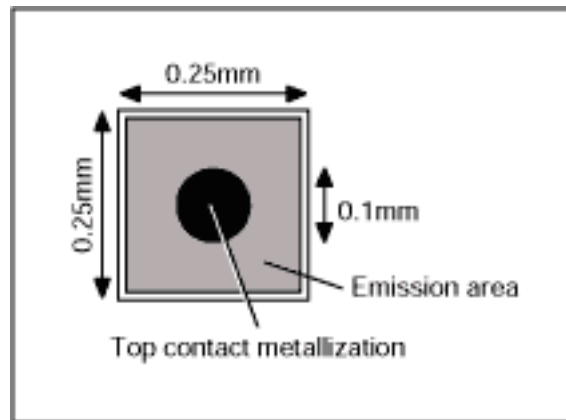

Figure 3. Typical GaP LED die
LEDs are processed in wafer form similar to silicon integrated circuits, and broken out into dice. Chip size for visible signal LEDs generally fall in the range 0.18mm square to 0.36mm square (Figure 3). InfraRed (IR) LEDs can be larger to handle peak powers, and LEDs for lighting are larger again.